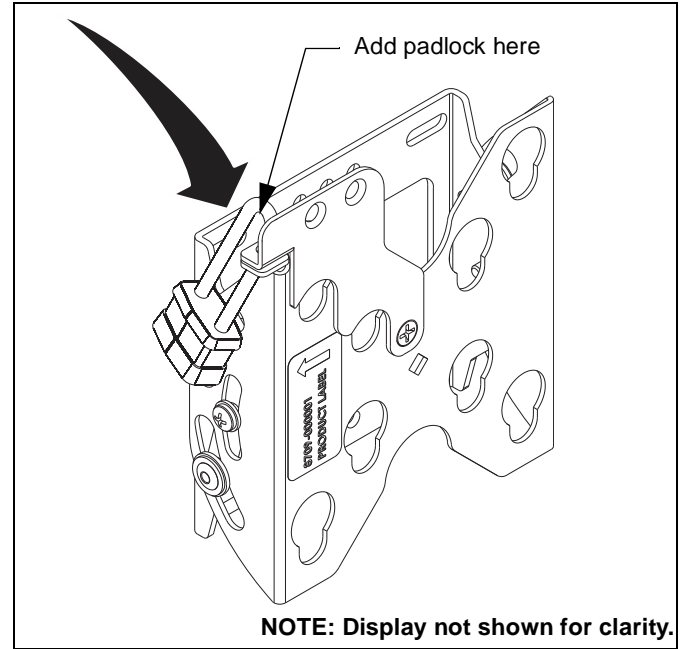

Figure 9
**NOTE:** An optional padlock may be used to secure latching flag in place. (See Figure 9)